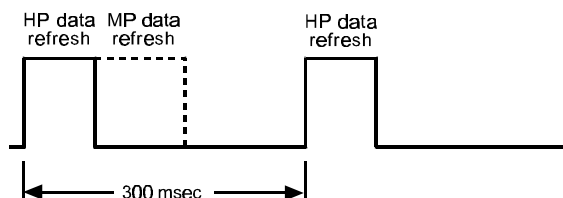

Figure 5 – HP and MP scan rate timing
Figure 5 shows a medium priority (MP) scan list refreshing its data. It is not occurring as frequently as the HP, but there is time, when required, *between* HP refresh cycles for this to occur.